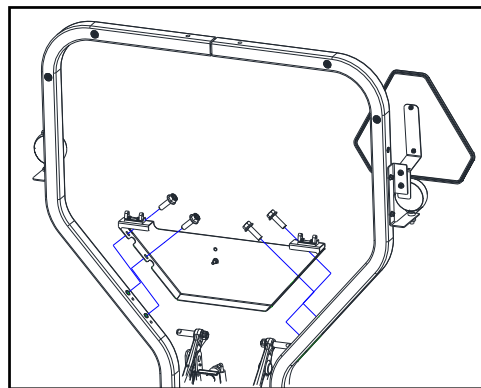

Fig. 2.1 (Section view from front)
2.1 Per Figure 2.1, fasten the lower rear panel to the rear ROPS using the factory installed inserts and the hardware listed below. Align flush with back of ROPS and tighten. **Caution: Ensure wiring is not in the way of lower rear panel by rotating loom away from mounting area prior to fastening lower rear panel to ROPS.**